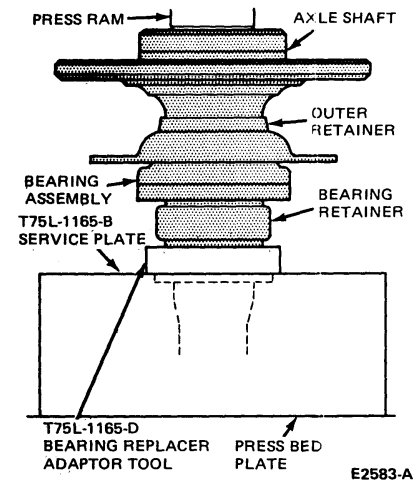

FIG. 9 Installing Seal and Bearing
4. Position a **NEW** bearing retainer on the shaft, then press it into position firmly against the bearing. Fig. 9 illustrates the shaft after the bearing has been pressed on, and with the bearing retainer in position ready to be pressed on.